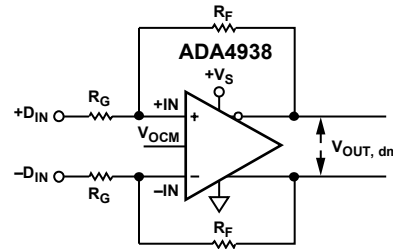

Figure 58. ADA4938 Configured for Balanced (Differential) Inputs
The effective input impedance of a circuit depends on whether the amplifier is being driven by a single-ended or differential signal source. For balanced differential input signals, as shown in Figure 58, the input impedance ( $R_{IN, dm}$ ) between the inputs (+DIN and -DIN) is simply  $R_{IN, dm} = 2 \times R_G$ .
**Table 10. Differential Ground-Referenced Input, DC-Coupled; See Figure 58**